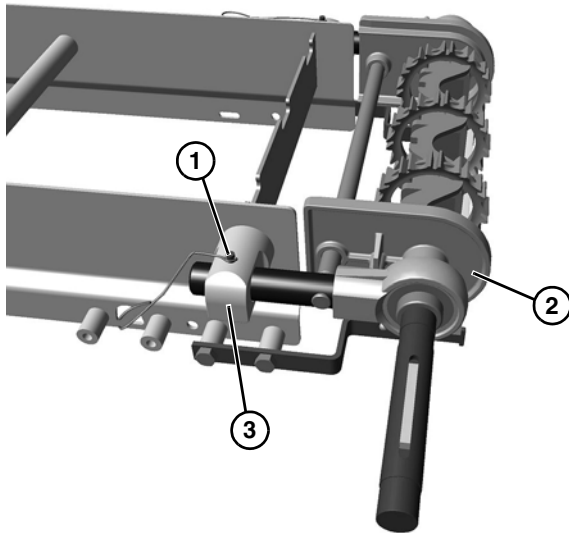

Figure 54
5. Remove the pull pin (**Figure 54, item 1**) from both sides of drive tail assembly.
6. Slide the drive tail assembly (**Figure 54, item 2**) out of the take up blocks (**Figure 54, item 3**).